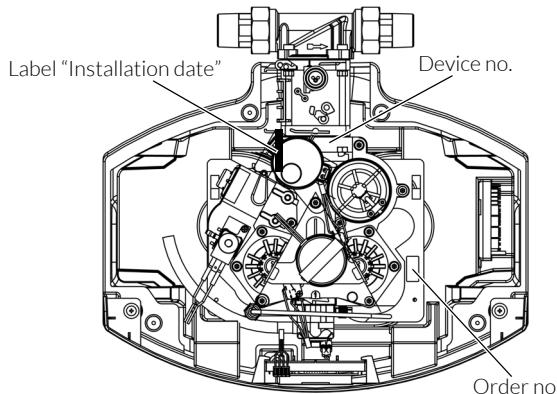

Fig. 10: Device no., order no. and label "Installation date"
- / Note down the installation date on the label (see fig. 10) and in the service record sheet (chapter 12).